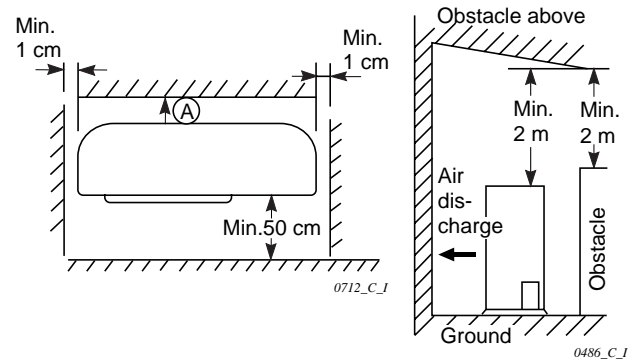

Fig.6
- allow enough room around unit for air intake/exhaust and possible maintenance. Fig. 6